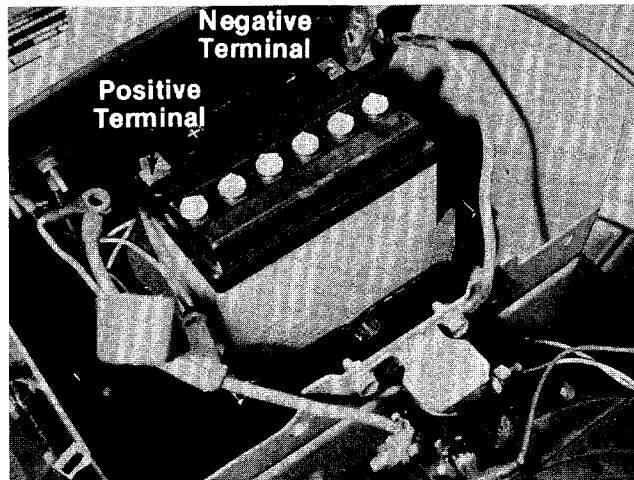

FIGURE 9.
11. Place the battery in the rider so that the positive terminal is towards the **right** side of the unit. See figure 9.